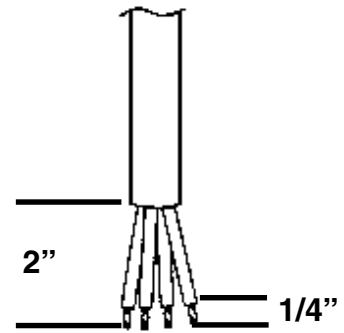

Figure No. 15
- Remove 2" of the outer insulation jacket then remove 1/4" of insulation from each of the four (4) wires and shield without sense leads or six (6) wires and shield with sense leads (refer to Figure No. 15). See Figures No. 5 (Main PCB) and No. 12 for location of Sense Jumpers.
- Remove 2" of the outer insulation jacket then remove 1/4" of insulation from each of the wires (refer to Figure No. 15).
- With the AC wiring in the enclosure, remove 1/4" of insulation from each of the wires (refer to Figure No. 15).
1. With the DC wiring in the enclosure, remove 1/4" of insulation from each wire (refer to Figure No. 15).